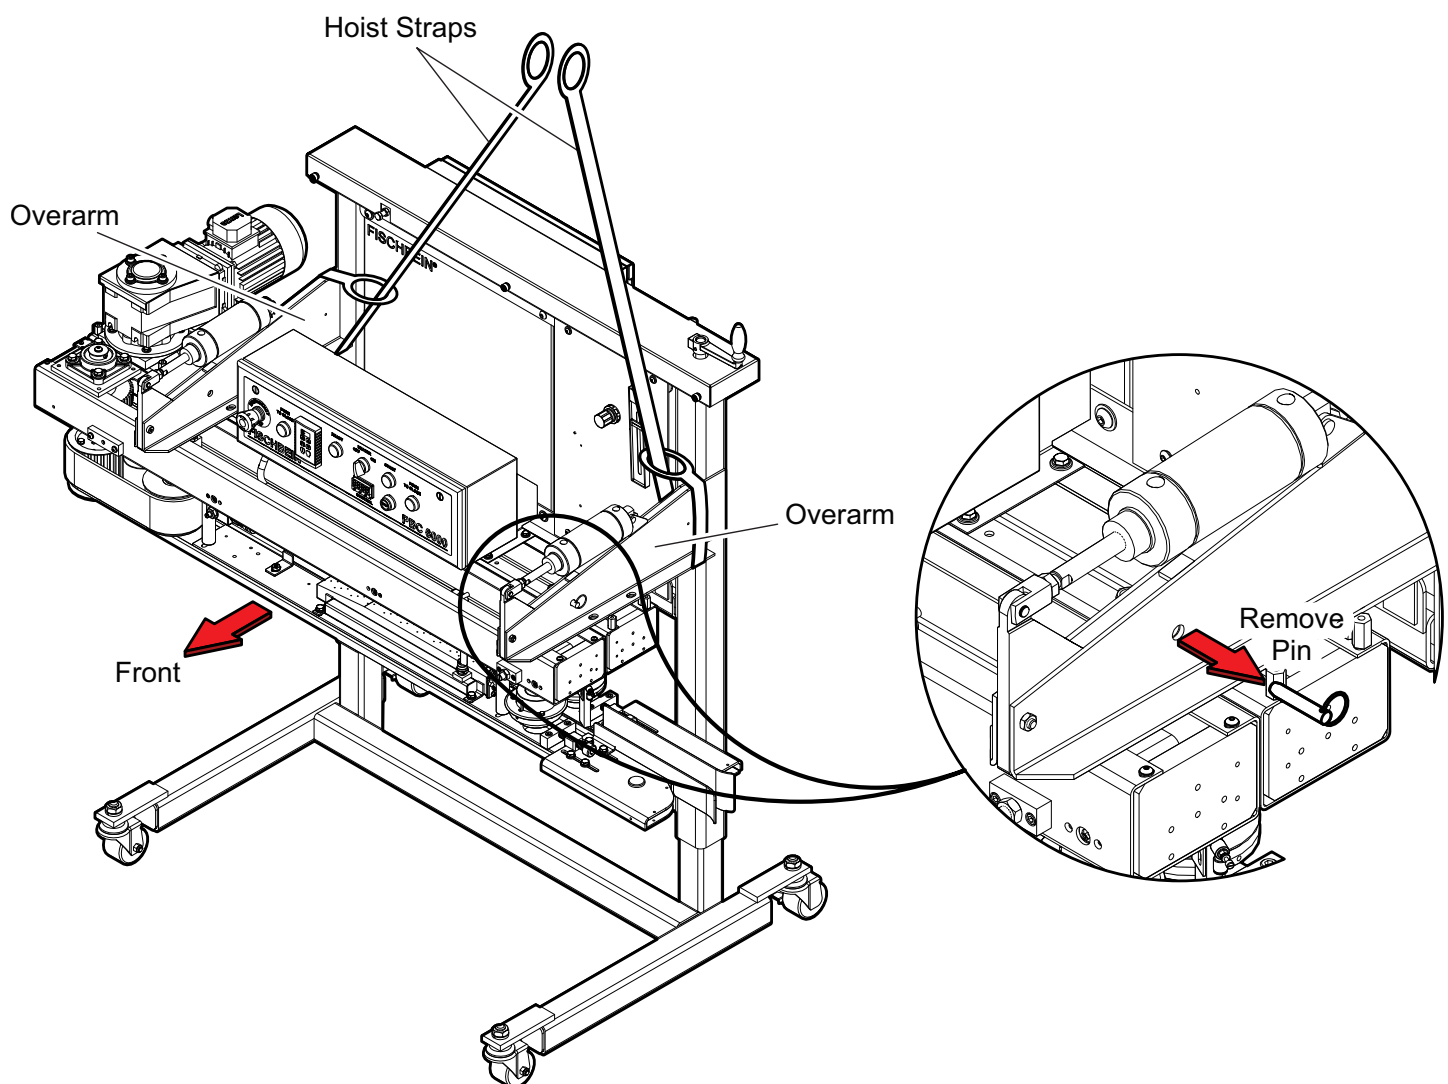

Figure 3-3: Lifting the Machine
5. Using 1000 lb-rated hoist straps, loop them around the overarms of the machine's frame (see Figure 3-3: Lifting the Machine). Make sure the straps do not pinch any wires or pneumatic hoses. Loop the straps securely over the forks of a forklift or an overhead hoist.
6. Use the forklift from the front or back of the machine to raise the machine above the pallet just enough to slide the pallet from under the machine (see Figure 3-3: Lifting the Machine). Each side of the machine must be monitored as the machine is slowly lifted. Monitors must allow the machine to gently tilt forward, but prevent the machine from swinging.
10. The swing channel is held in the down position by a holding pin, installed for shipment only. This pin must be removed before operating the machine for the first time (see Figure 3-3: Lifting the Machine).